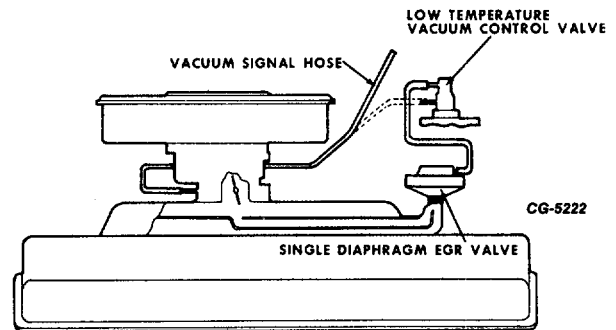

Fig. 53 Single Diaphragm EGR Valve System
- Disconnect EGR vacuum signal hose (Fig. 53) and again record tachometer reading. If EGR system is functioning properly the minimum speed increase should be 50 rpm for the V-304 and 150 rpm for the V-345. If rpm increase is less than shown above, EGR system is not functioning properly and should be checked per the following steps.
- With engine operating at fast idle, disconnect vacuum signal hose from EGR valve. A vacuum signal should be felt at the open end of the hose. If vacuum is felt, vacuum supply and low temperature valve are satisfactory (Fig. 53).